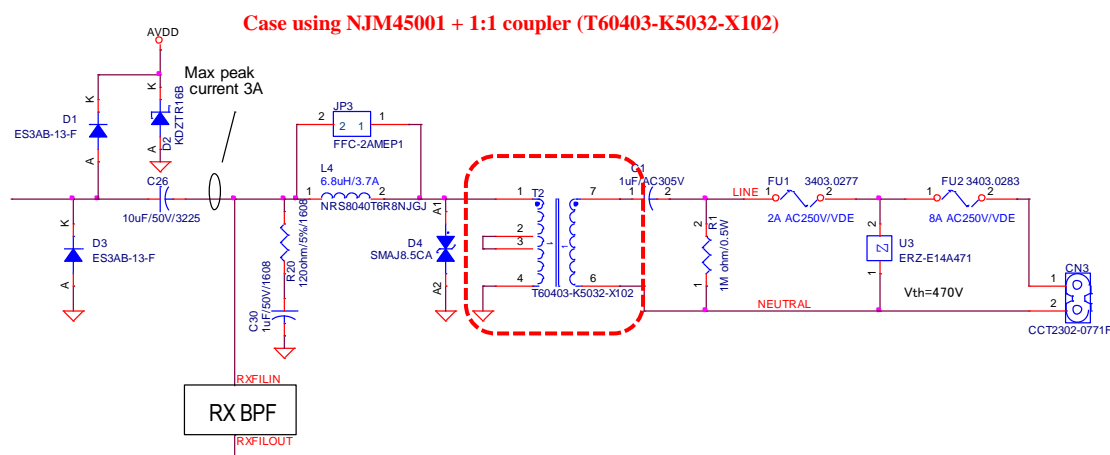
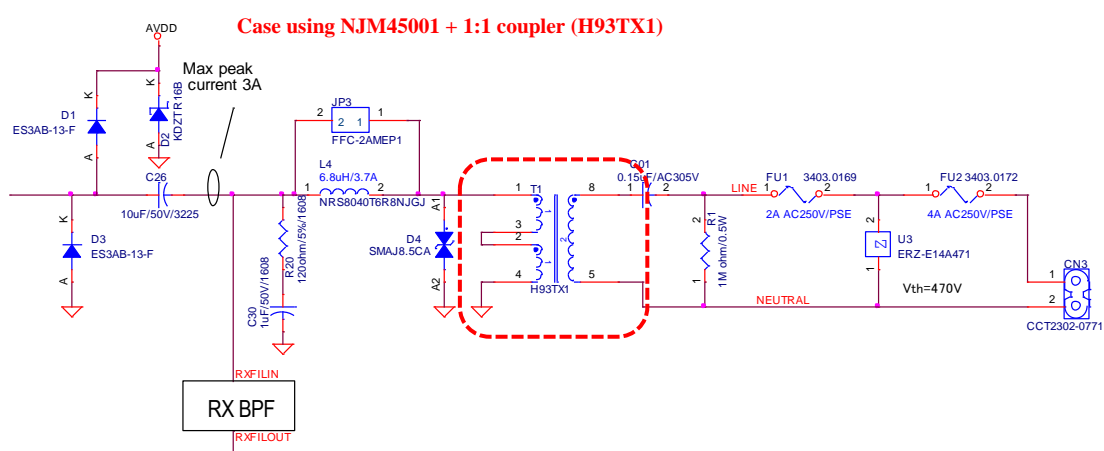

Figure 3-3 The recommended 1:1 PLC coupler (T60403-5032-X102) connection example (CENELEC-A, FCC / ARIB, Global compatible)
Figure 3-4 The recommended 1:1 PLC coupler (H93TX1) connection example (ARIB compatible)
- The recommended PLC Coupler is T60403-5032-X102. In the case of ARIB, H93TX1 can also be used. The recommended 1:1 PLC coupler (T60403-5032-X102) connection example (CENELEC-A, FCC / ARIB, Global compatible) is shown in Figure 3-3, and the recommended 1:1 PLC coupler (H93TX1) connection example (ARIB compatible) is shown. Figure 3-4 shows.